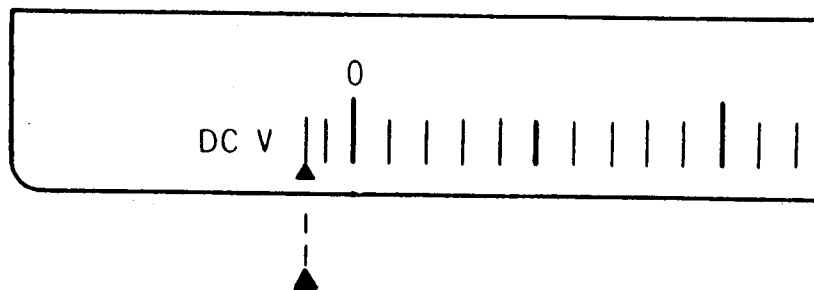

Figure 4-3. ZERO Adjust
4.1.3 ZERO Adjust (Left-hand margin) See Figure 4-3.